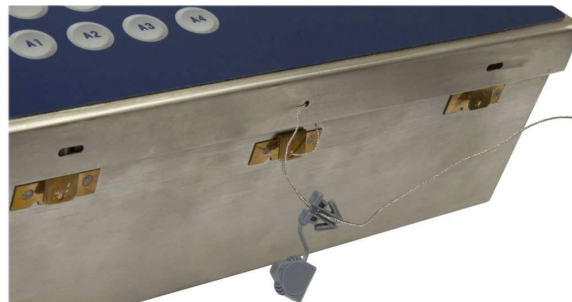

Figure 2-77: External Sealing of the Harsh Enclosure
For external sealing of the harsh enclosure, refer to Figure 2-77 and follow these steps:
5. Thread the end of the wire cable through the plastic seal and snap the seal shut. Note that, to show the relationship between the components, Figure 2-77 shows the cover open, the wire slack, and the seal not yet shut.